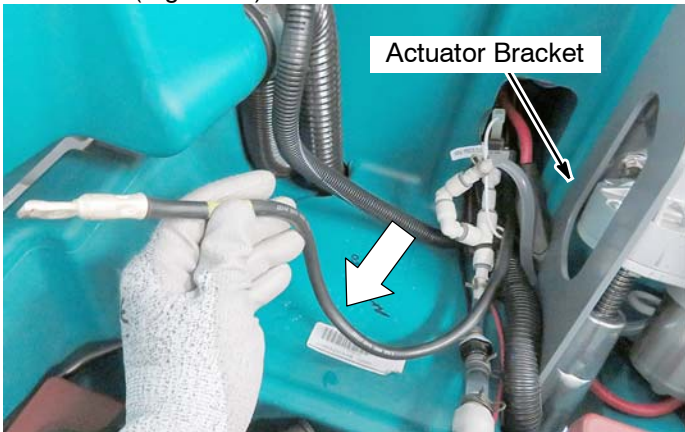

Fig. 12
14. Reroute the black cable from behind the actuator bracket to the center of the battery compartment as shown (Figure 12).